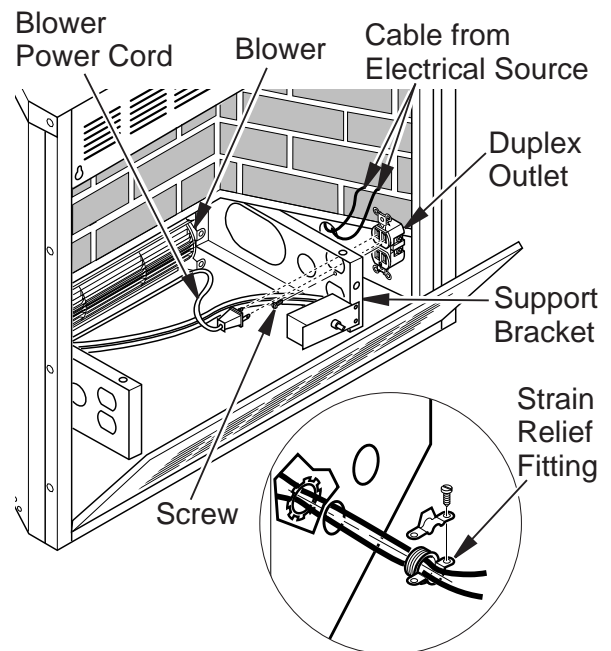

Figure 14 - Connecting Duplex Outlet
2. If using blower, install duplex outlet to the right support bracket in the bottom of firebox (see **Figure 14**). See **Accessories, Page 32**. If not using blower, go to step 7.
3. Route wires from electrical box through smallest hole in outer casing using strain relief fitting provided (see **Figure 14**).